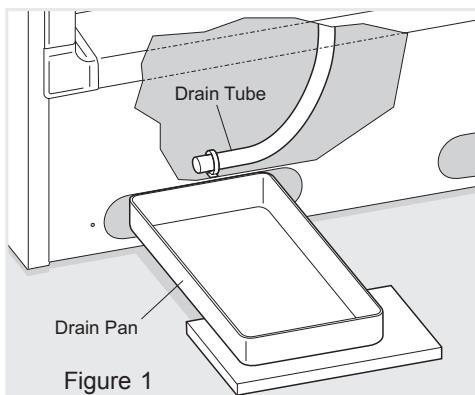

Figure 1
- **On upright models** with a defrost drain (Figure 1), remove drain plug on the inside floor of the freezer by pulling straight out. To access external drain tube on models with a base panel, first remove the two screws from the base panel. Locate the drain tube near the left center under the freezer. Place a shallow pan under the drain tube. Defrost water will drain out. Check pan occasionally so water does not overflow. A $\frac{1}{2}$ inch garden hose adapter can be used to drain the freezer directly into a floor drain. If your model is not equipped with an adapter, one can be purchased at most hardware stores. Replace the drain plug when defrosting and cleaning are completed. If the drain is left open, warm air may enter freezer.